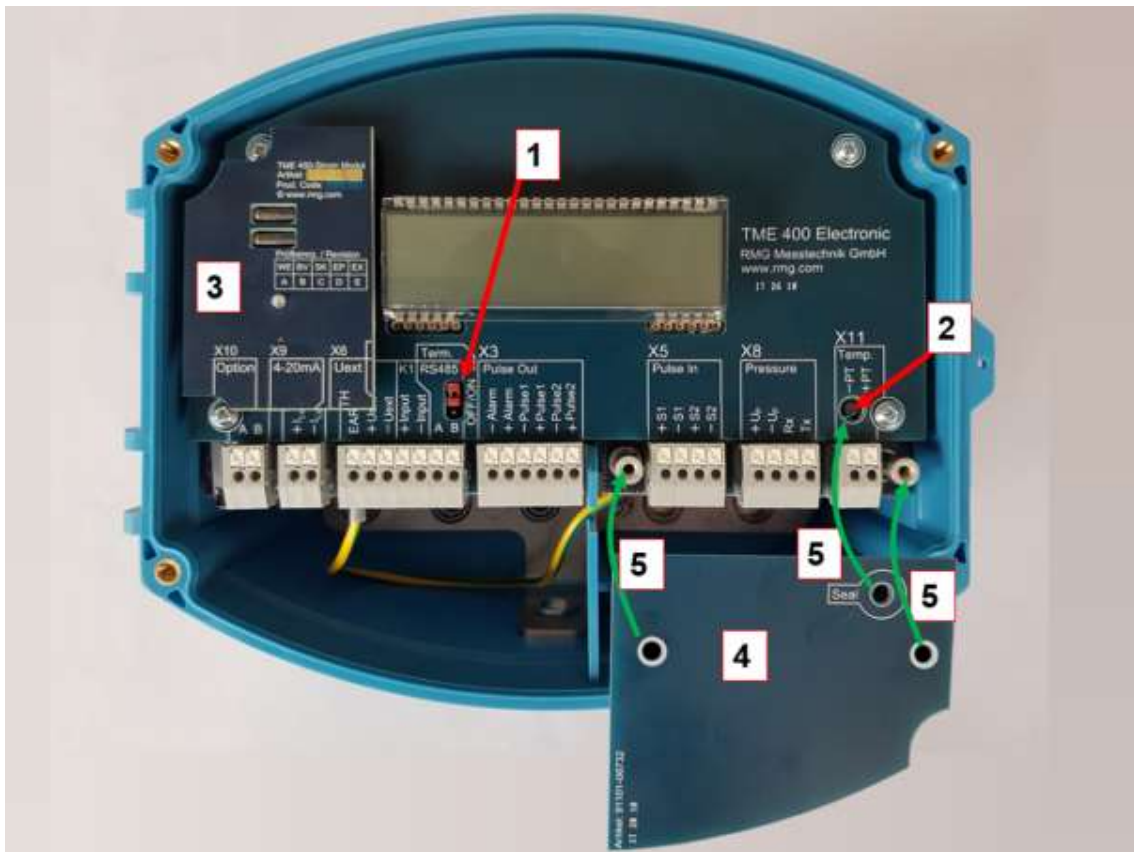

Figure 1: Electronic with power module
The power module (3) must be plugged on as shown in *Figure 1: Electronic with power module*. The current module is factory adjusted and **does not need** to be calibrated before operation.
To complete the installation, various parameters must be checked or configured. To do this, the parameter protection must be removed, either by entering the code word (see *chapter 4.3.3.10 Settings*) or by pressing the calibration button (see *Figure 1: Electronic with power module*).